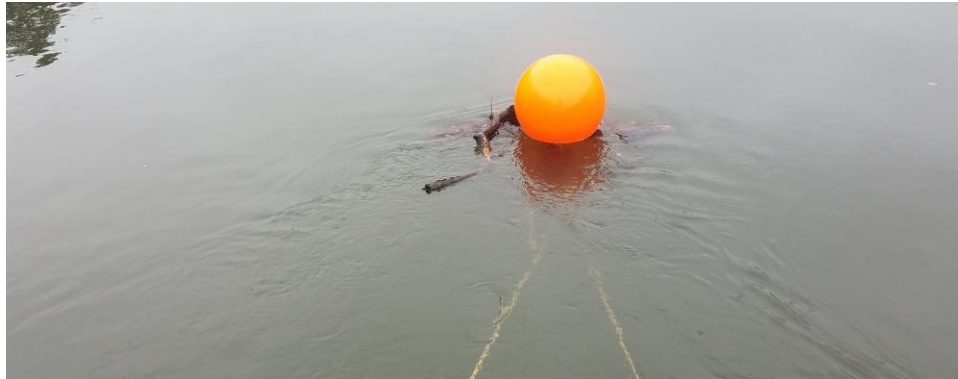

Figure 13. Exposed Wood Debris in AIS Buoy Mooring Lines (D03 FLNT)
- f. Free exposed wood debris caught in the mooring system (Figure 13). This may occur more frequently at river locations.